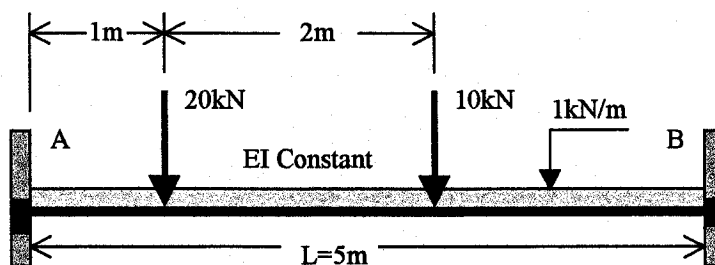

Fig. Q2
2. a) The beam in Fig. Q2 is fixed at A and B, it has constant section and its span is $L = 5\text{m}$. It has a uniform load of 1kN/m and point loads of 20kN and 10kN applied as shown. The self-weight of the beam may be ignored and the beam behaves in a linear elastic manner. Evaluate the end moments M_A and M_B .